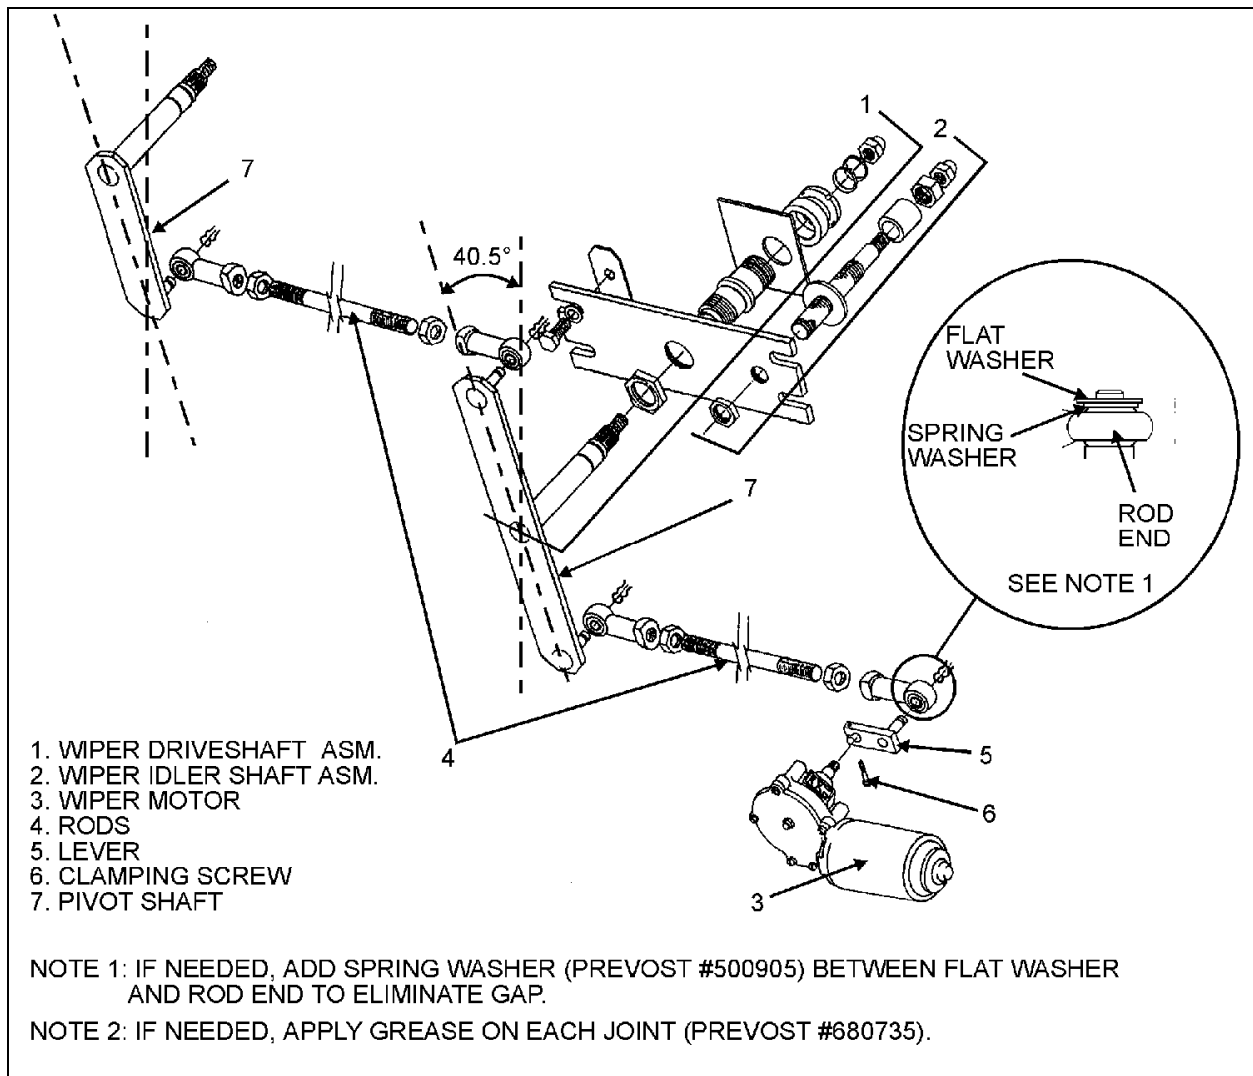

FIGURE 38: LOWER WINDSHIELD WIPER INSTALLATION
4. Adjust the rod located between right pivot shaft and motor to a  $40.5^\circ$  angle (fig. 38). The motor lever must be on the same axis as the rod.